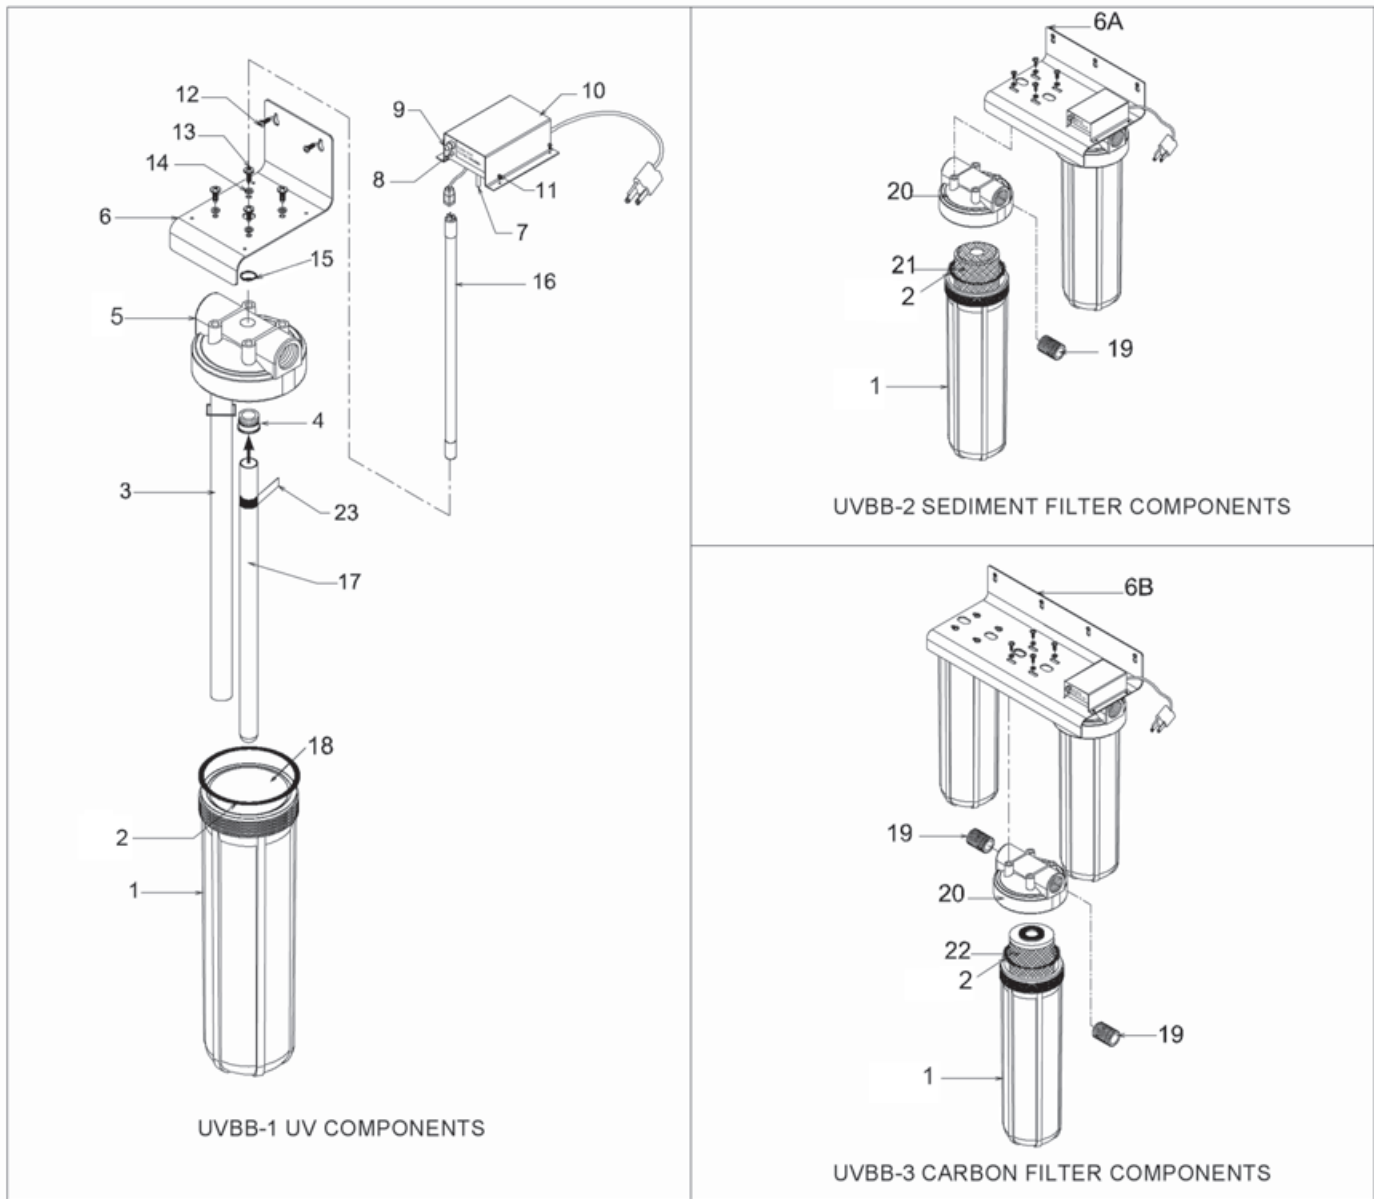

Figure 3 Exploded Schematic, PURA UVBB Series
NOTE: All Items refer to Figure 3.
8. **For UVBB-2 and UVBB-3 Models only:** Remove Sump (Item 1) from Filter Head (Item 20). Install Filters (Items 21 and 22) as shown in Figure 3. Install sump onto filter head.
CAUTION: Verify that inlet and outlet ports are connected to appropriate inlet/outlet pipes (see Figure 3).